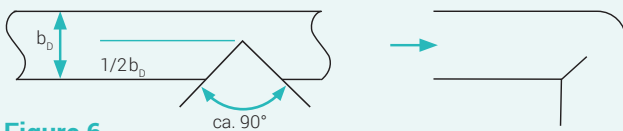

Figure 6
- Turn sharp corners: Perform a V-shaped cut (a 80° - 90° notch) at the inner edge of the tape (figure 6) and ensure the outer half of the gasket tape is not affected.